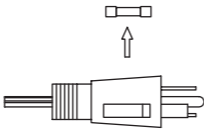

Fig.3
3. Remove fuse carefully. (See Fig.3)